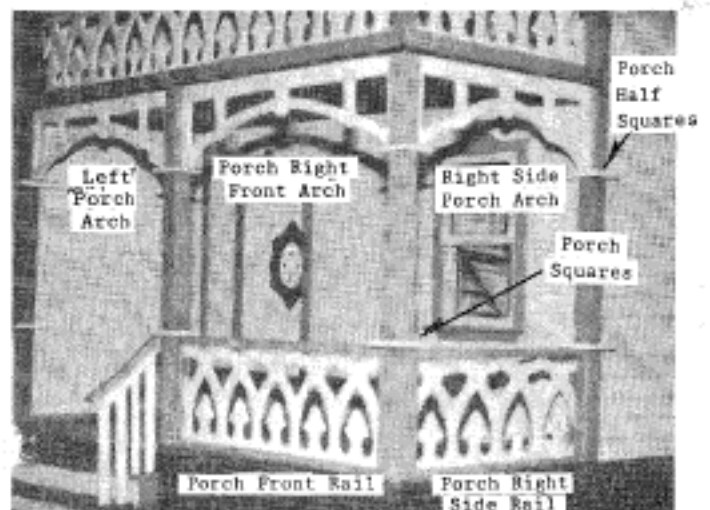

Figure 26
6. Assemble Porch Arches, Rails, Posts, and Squares as in Figure 26. Notice the ends of the rails and arches are centered on the posts.